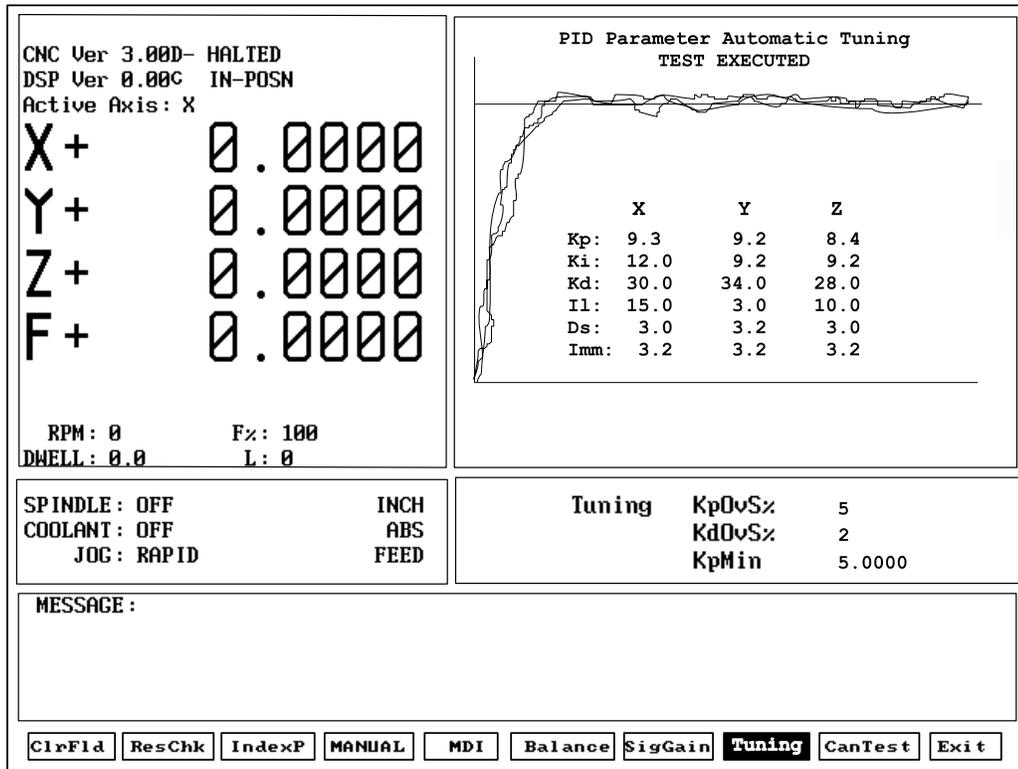

Figure 11, Tuning Parameters Test Results Screen
The Tuning function can determine optimum values within constraints you specify. The default values are usually correct for most machines. To fine-tune, enter values manually or use this test. Refer to **Figure 11, Tuning Parameters Test Results Screen**.
6. Refer to **Figure 11**. After the test, the CNC plots the final step responses for all axes tested, and displays them in the graphics area of the screen.
1. Refer to **Figure 11**. After the Tuning Test, the results are displayed in the Graphics Area of the screen. Press **TUNING (F8)** and highlight **Save Results**.